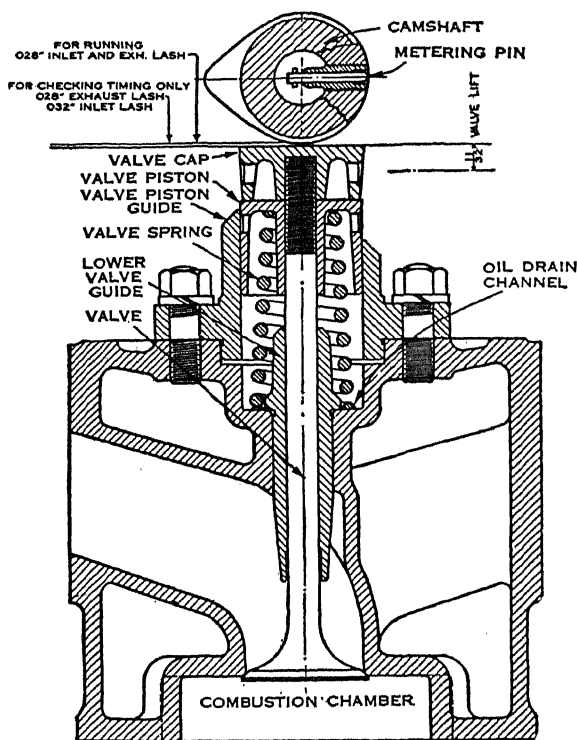

Fig. 7. Cross Section through Valve of Overhead Camshaft Engine
**Overhead Camshaft.** In some of the foreign countries, the overhead camshaft construction has long been popular. In the United States the tendency has always been toward simplification of moving parts. An outstanding example of the success of the overhead camshaft principle is to be found in the racing engines. Fig. 7 shows a cross section of the valve, camshaft, and cylinder. It will be noted that the camshaft forces the valve down when it comes into contact with the valve piston. This device takes the